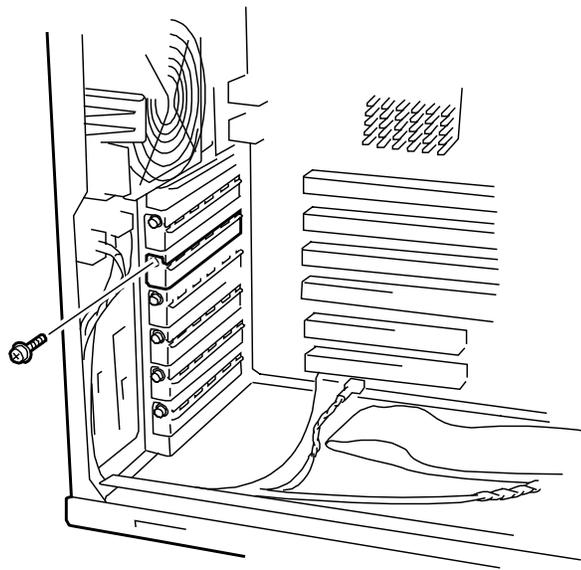

Figure 4-43. Removing the PCI Slot Cover
5. Remove the expansion slot cover. See Figure 4-43.